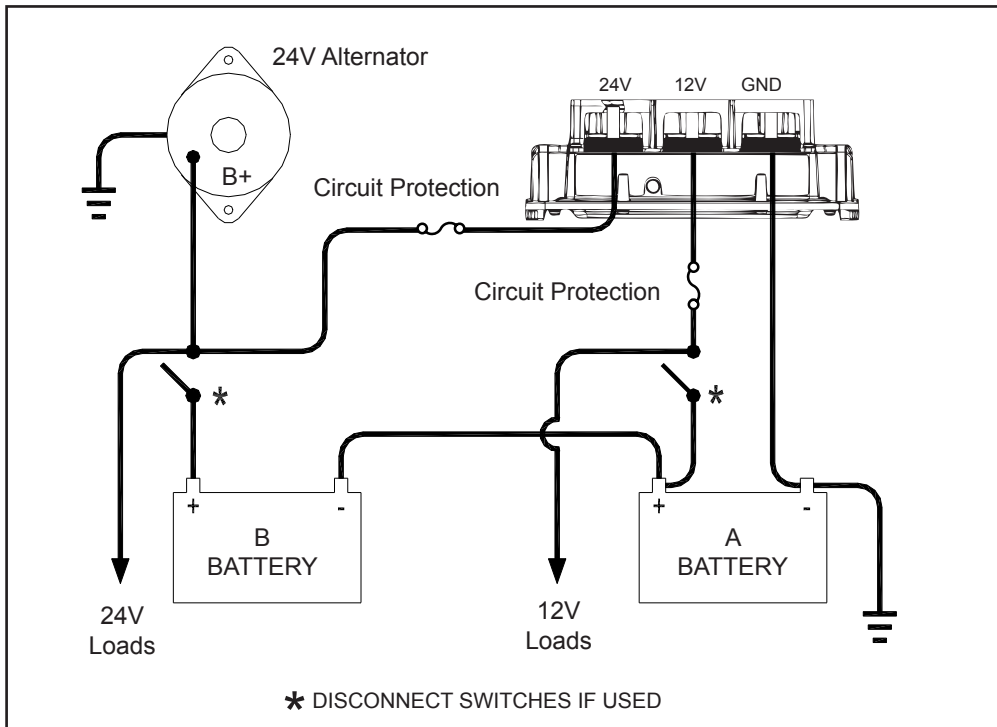

Figure 1: Equalizer connection diagram.
5. If a battery-disconnect switch is required with an equalizer application, two disconnect switches should be used (see page 2, figure 1). Electrically, place one disconnect between the "A" battery "POS" and the 12V connections, including the equalizer 12V terminal and 12V loads. Place the second disconnect between the "B" battery "POS" and the equalizer-to-alternator connection.